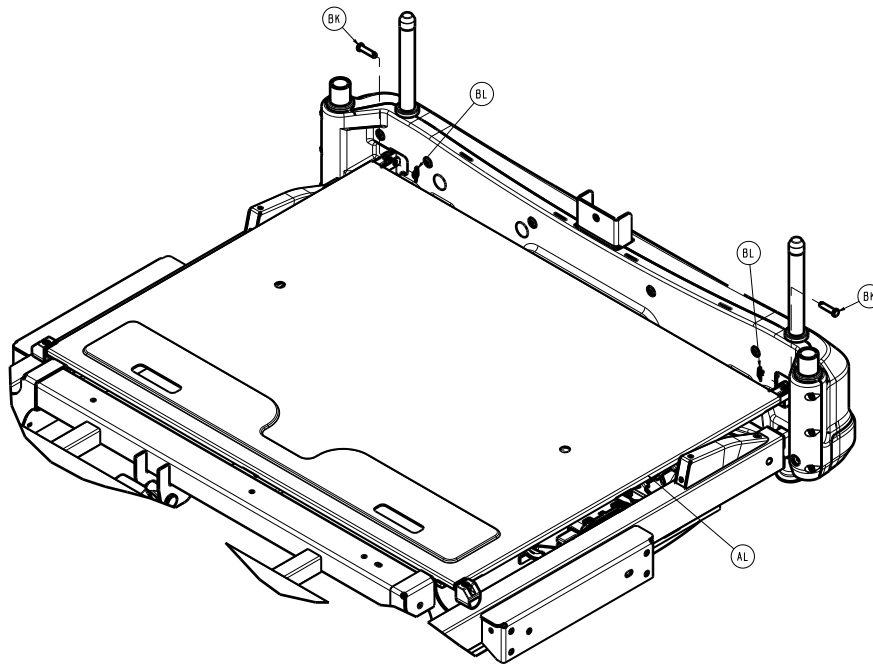

Figure 17 – Replacing the cover
4. Using needle nose pliers, remove the two ruer clips (BL) and clevis pins (BK) that secure the bed extender pan (AL) to the foot frame (Figure 17). Save the ruer clips and clevis pins.
4. Using needle nose pliers, remove the two rue clips (BL) and clevis pins (BK) that secure the bed extender pan (AL) to the foot frame (Figure 17). Save the rue clips and clevis pins.